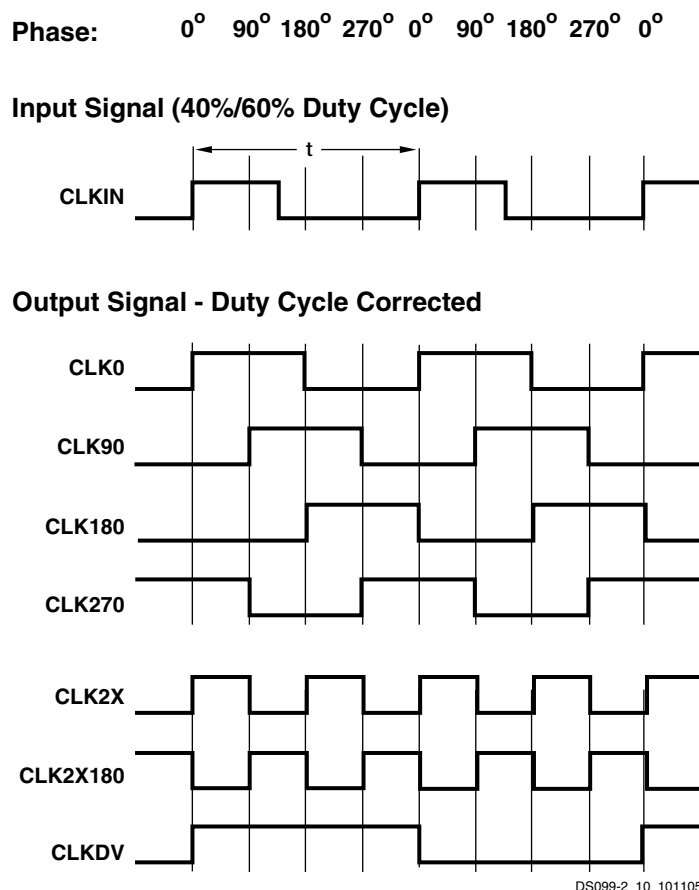

Figure 43: Characteristics of the DLL Clock Outputs
In addition to CLK0 for zero-phase alignment to the CLKIN signal, the DLL also provides the CLK90, CLK180, and CLK270 outputs for 90°, 180°, and 270° phase-shifted signals, respectively. These signals are described in Table 28, page 49 and their relative timing is shown in Figure 43. For control in finer increments than 90°, see Phase Shifter (PS).